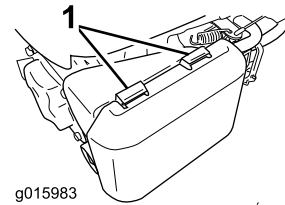

Figure 22
1. Press down on the latch tabs on top of the air-filter cover (Figure 22).